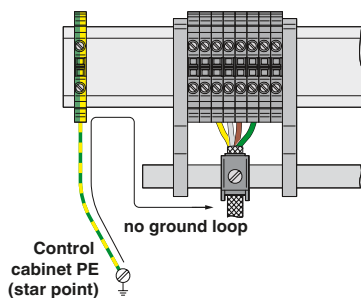

Figure 3: Here the connection between the shielded cable and ground runs via the DIN rail. The structure of this grounding is correct.
The following example demonstrates the effectiveness of measures intended to protect against interference. The illustrated arrangement is exposed to an alternating magnetic field with 50 kHz over a length of 2 m. The interference voltage measured at the output is specified in relation to the interference voltage when the conductor shield is not connected (1) 0 dB. When a shield is connected at one end (2), there is no improvement as it is not effective against magnetic interference. When a shield is connected at both ends, as illustrated in Figure 3, the interference field is attenuated